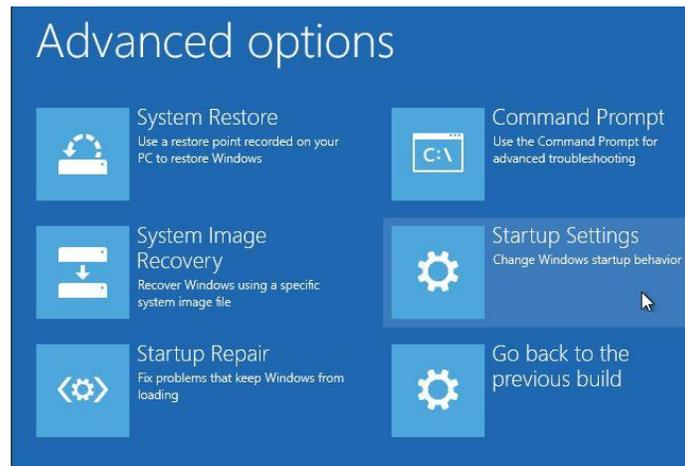

Figure 6 Advanced options menu
5. Click the “Startup Settings” tile (Figure 6).